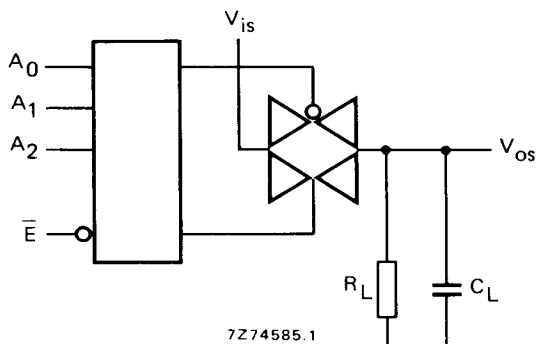

Fig. 8.
- $R_L = 10\text{ k}\Omega$ to V_{EE} ; $C_L = 50\text{ pF}$ to V_{EE} ; $\bar{E} = V_{SS}$; $V_{is} = V_{DD}$ (square-wave); see Fig. 8.
- $R_L = 10\text{ k}\Omega$; $C_L = 50\text{ pF}$ to V_{EE} ; $\bar{E} = V_{SS}$; $A_n = V_{DD}$ (square-wave); $V_{is} = V_{DD}$ and R_L to V_{EE} for t_{pLH} ; $V_{is} = V_{EE}$ and R_L to V_{DD} for t_{pHL} ; see Fig. 8.
- $R_L = 10\text{ k}\Omega$; $C_L = 50\text{ pF}$ to V_{EE} ; $\bar{E} = V_{DD}$ (square-wave); $V_{is} = V_{DD}$ and R_L to V_{EE} for t_{pHZ} and t_{pZH} ; $V_{is} = V_{EE}$ and R_L to V_{DD} for t_{pLZ} and t_{pZL} ; see Fig. 8.
- $R_L = 10\text{ k}\Omega$ to V_{EE} ; $C_L = 15\text{ pF}$ to V_{EE} ; $\bar{E}$ or $A_n = V_{DD}$ (square-wave); crosstalk is $|V_{os}|$ (peak value); see Fig. 8.